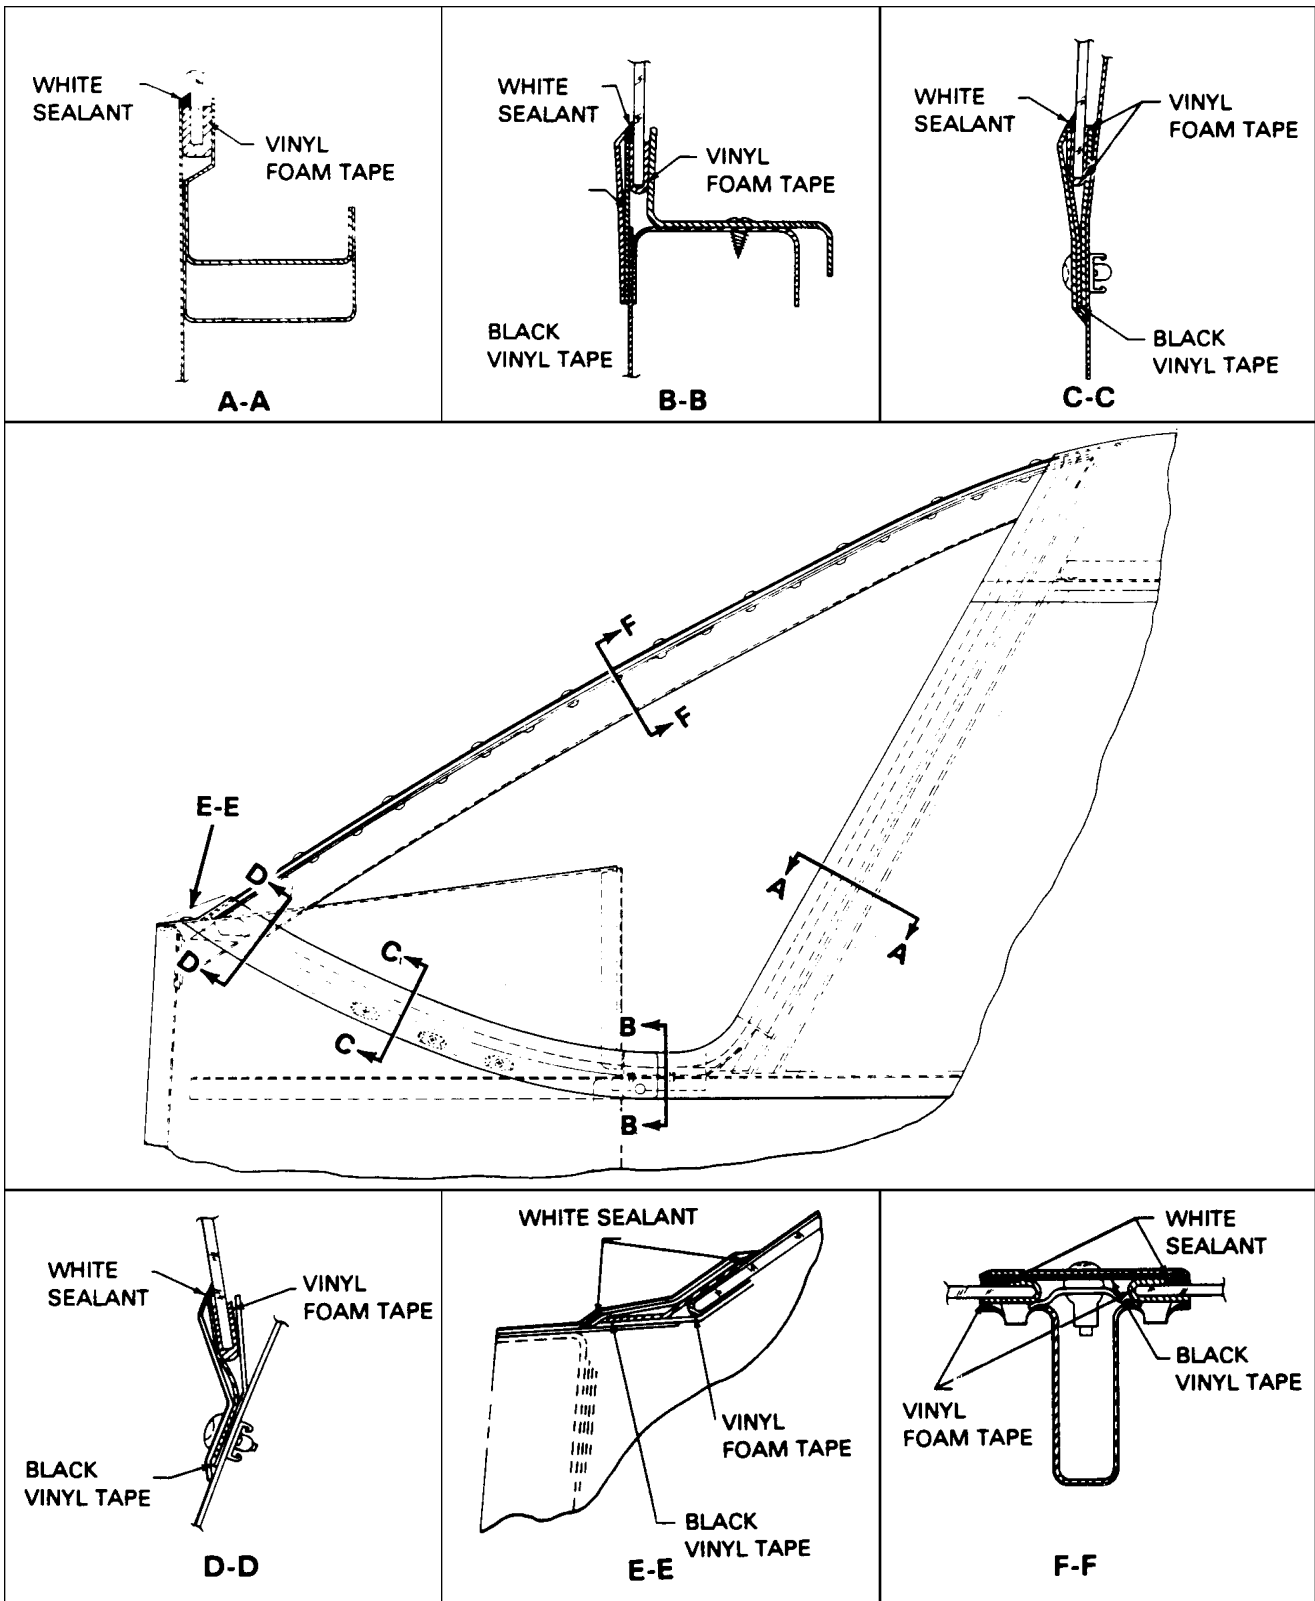

Figure 56-1. Windshield Installation - Typical
B. INSTALLATION OF WINDSHIELD (Refer to Figure 56-1.)